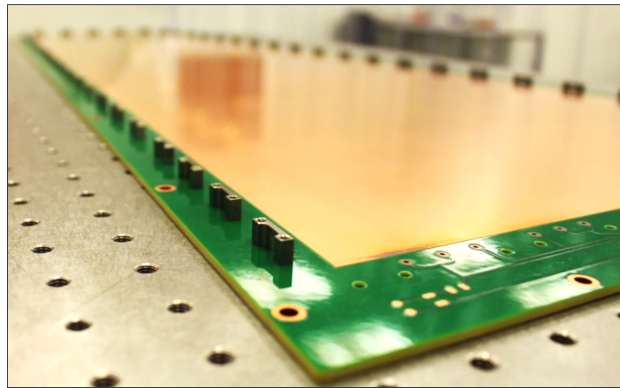

Figure 16: Drift board after mounting the pull-outs.
Step 3: Proceed like this all around the perimeter of the board, except on the large base of the trapezoid. This area must remain clear before soldering the HV components (Fig. 16).